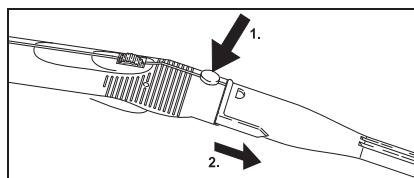

Figure 9
- To detach the accessory parts, press the unlocking button (C2 or G2), and pull the items apart (see Figure 9).